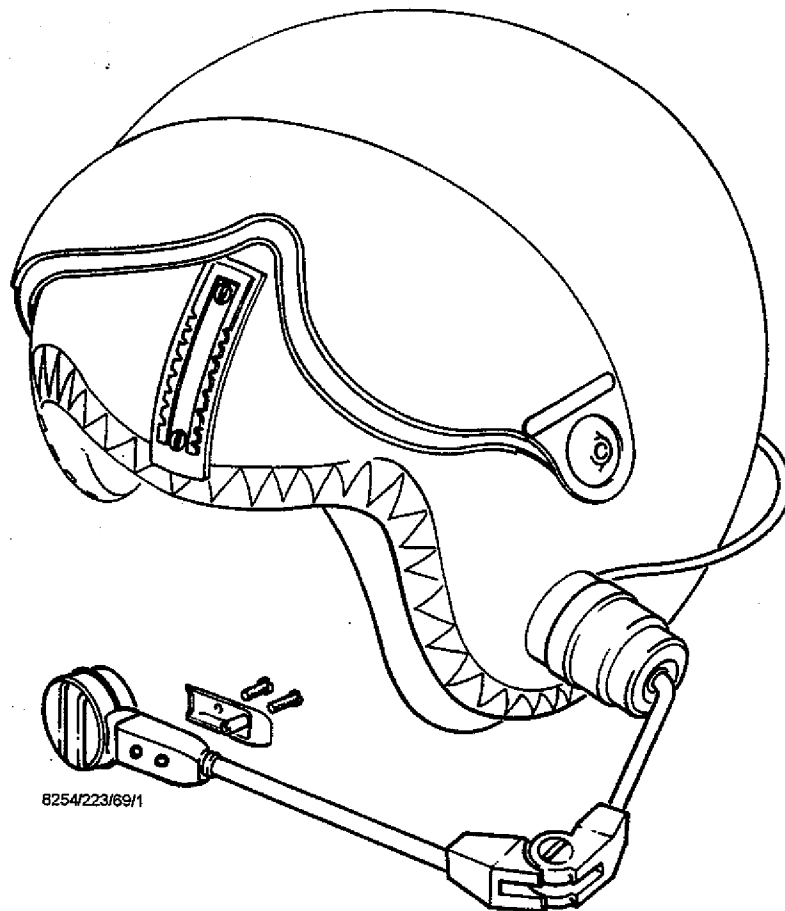

Fig 1 Boom microphone assembly 5965-99-784-9987
- 2 This equipment (see Fig 1), Thales Acoustics type 8796, is a noise cancelling microphone mounted on an articulated arm assembly which provides adjustment to suit the user. The microphone assembly was introduced into Navy use by modification HM003 and is fitted to the Mk4A Flying Helmet by modification HM006. ◀